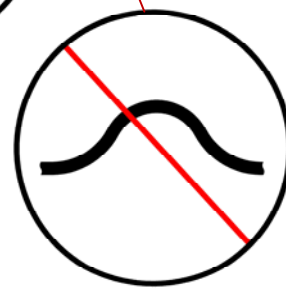

Figure 2B.
4. Heater Inlet: Connect hose from the inlet of the heater to where the coolant will be pulled out of the engine. There must be no high spots in the routing of the hose. See figure 2B.